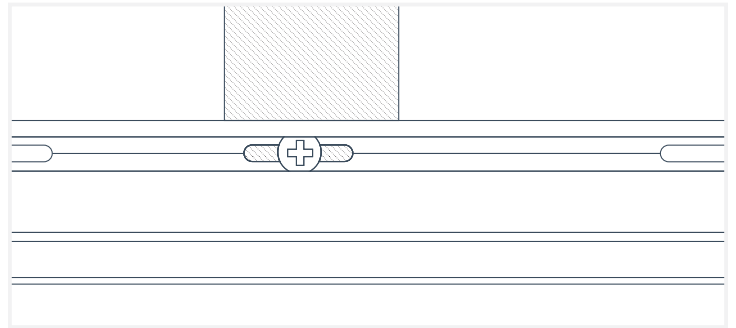

Fig. 3
- Always fasten in the center of the screw flange slots. Fastening at the end of the slots can cause the panels to buckle or distort (Fig. 3)